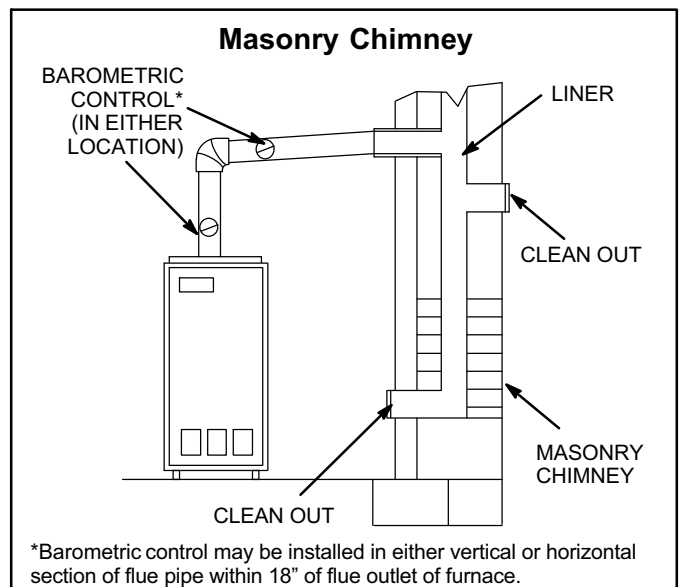

Figure 7
9. The vent pipe should slope upward toward the chimney on horizontal run at least 1/4 inch (6 mm) to the foot (0.3 m) and should be supported by something other than the furnace, such as isolation hangers. See figure 7.